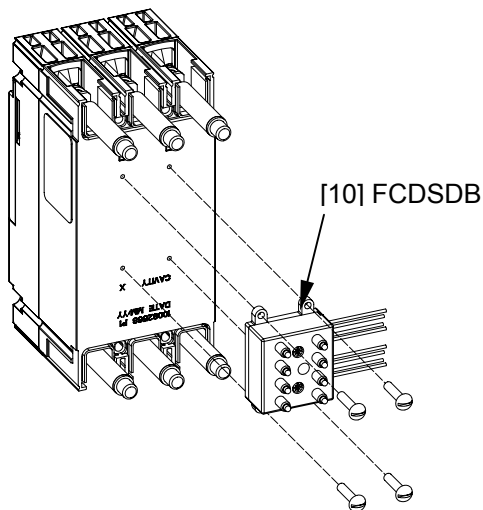

Figure 6. Assemble the Secondary Disconnect Breaker Adaptor to Breaker.
3. Fasten the Secondary Disconnect breaker adaptor (FCDSDB) [10] to the breaker base with #4-40 X 0.312" screw provided in kit, as illustrated in Figure 6. Tighten the screws to 5 - 6 in-lb.